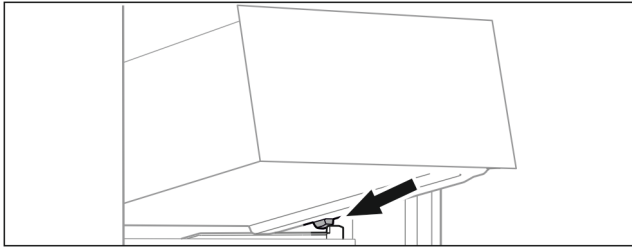

Fig. 63
- ▶ Place drawer at an angle behind the stoppers on the moulded rib. (see Fig. 63)